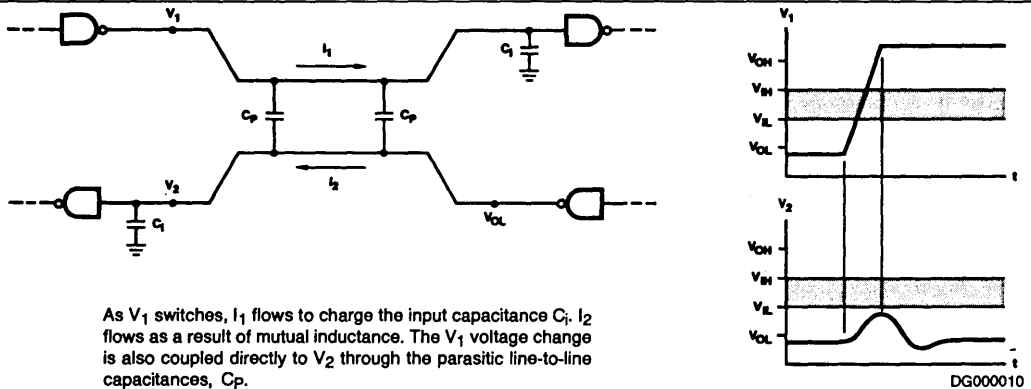

Figure 1. An Example of Cross-Talk
- **Cross-Talk:** The desire to pack system components as tightly as possible inevitably causes signal wires or PC board traces to be placed in close proximity. The lead-to-lead capacitance and mutual inductance thus created (see Figure 1) causes "noise" voltages to appear when adjacent signal paths switch.